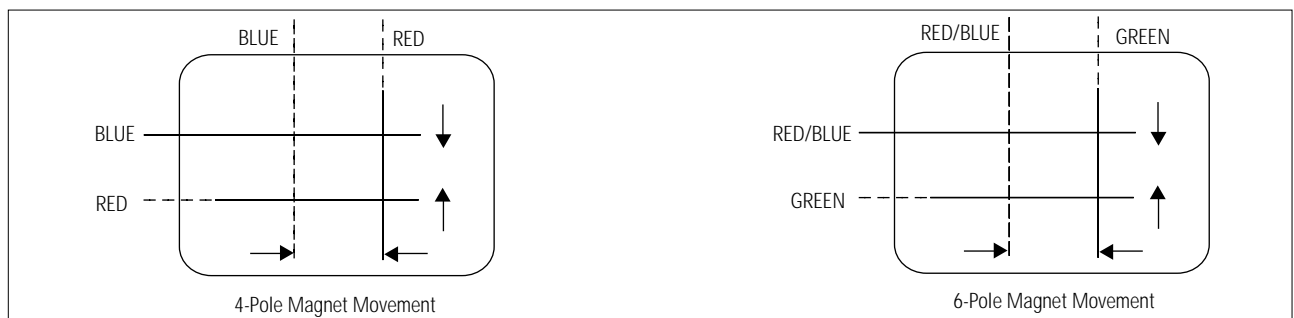

Fig 5-3 Center Convergence Adjustment
8. Since the 4-pole magnets and 6-pole magnets interact, the dot movement is complex (Fig. 5-3).